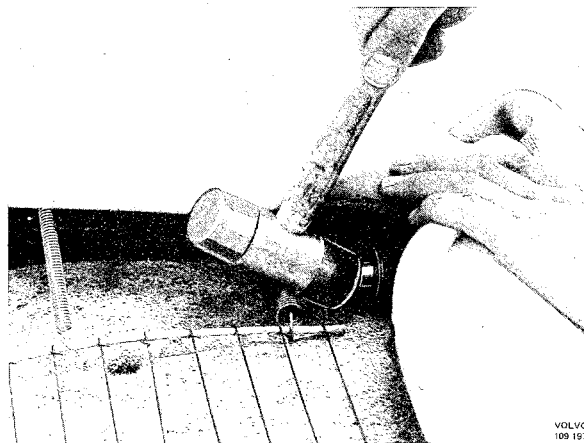

Fig. 8-60. Removing head restraint
- C. Unfold the upholstery completely. Knock loose the head restraint. Remove head restraint and upholstery. See Fig. 8-60.